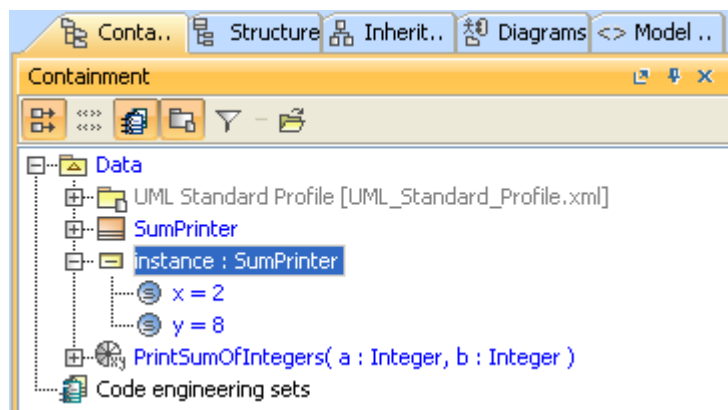

Figure 76 -- The created InstanceSpecification with Slot Values in the Containment Browser
9. Repeat the same steps to assign 8 as the value of the property y slot (Figure 76).